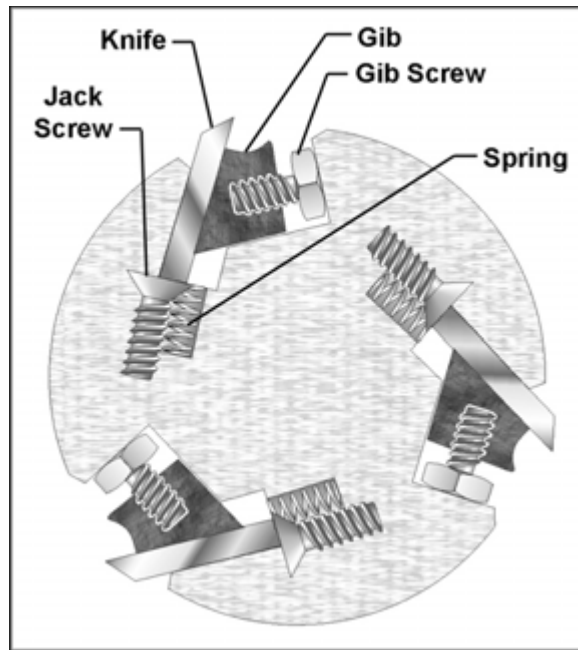

Figure 31 (straight cutterhead)
14. Slightly loosen the five gib screws (see Figure 31) with an 8mm wrench. (NOTE: